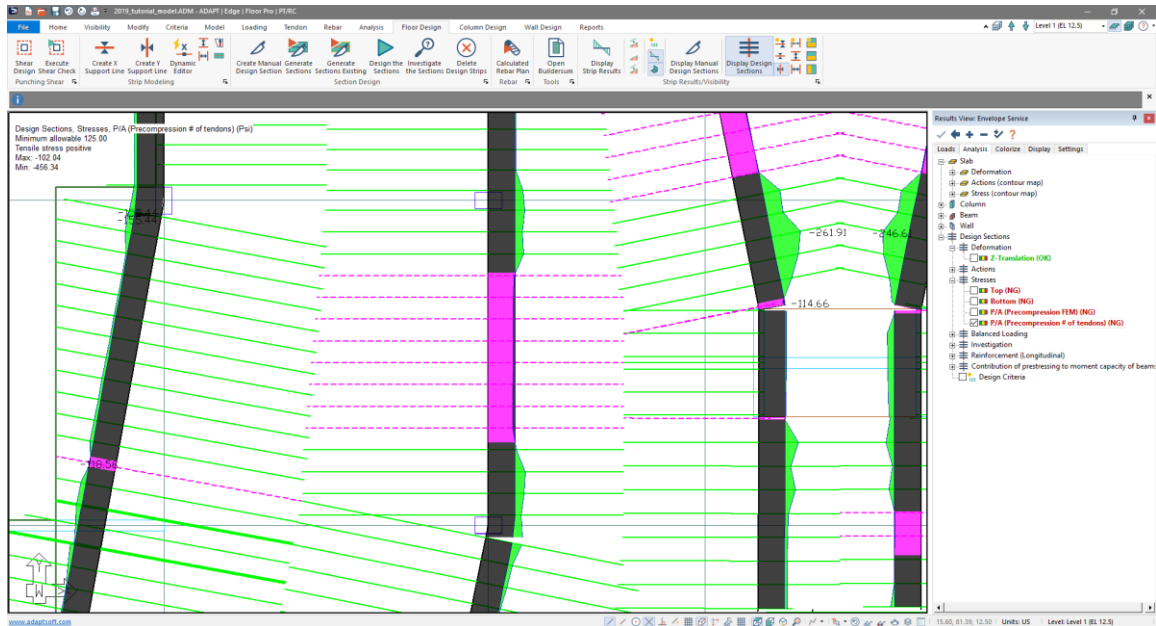

Figure 9-98
- Zoom in to the area of the model where there is a support line running along gridline C between gridlines 3 and 4 as shown in **FIGURE 9-98**.